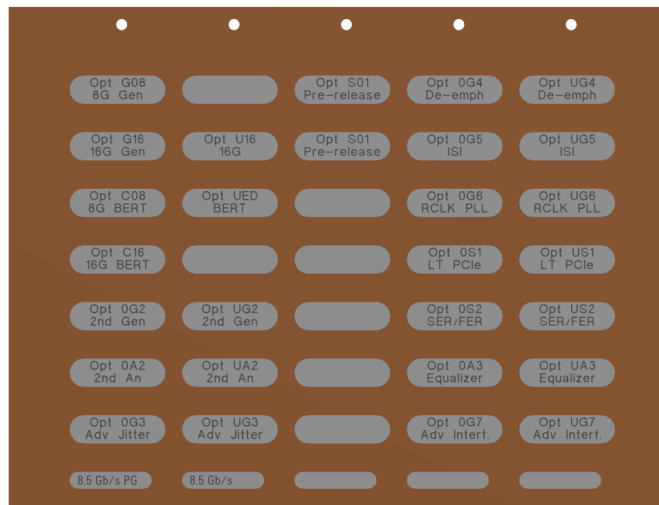

Figure 22 Option label sheet
Whenever the M8020A is upgraded with additional options, it is recommended that you affix the corresponding label(s) to the front panel of the module. The option labels provide a quick view of which options are installed in each module. Figure 22 on page -60 shows the option label sheet provided with your M8020A system.
- 1 Locate the option label sheet shown in Figure 22 on page -60.